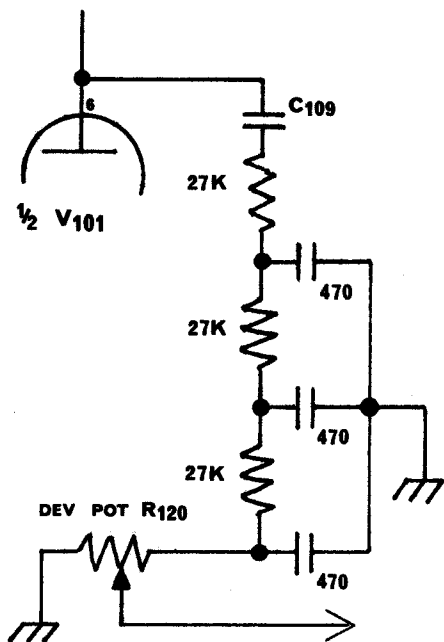

FIGURE 1
- Step 3. Remove R119 (56K) and in its place install the circuit shown in figure 1.